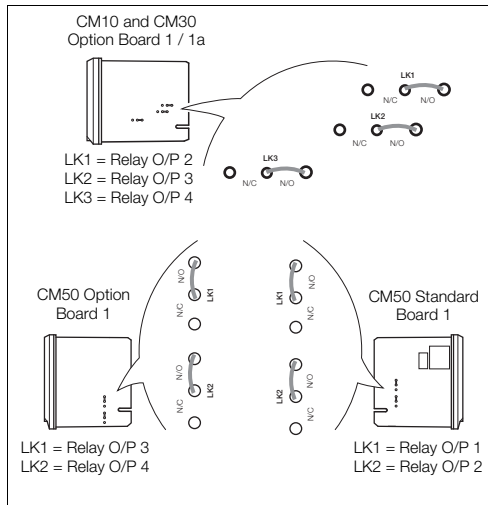

Fig. 4.6 Jumper Links for Relay Outputs
1. The links associated with the relay outputs are shown in Fig. 4.6.